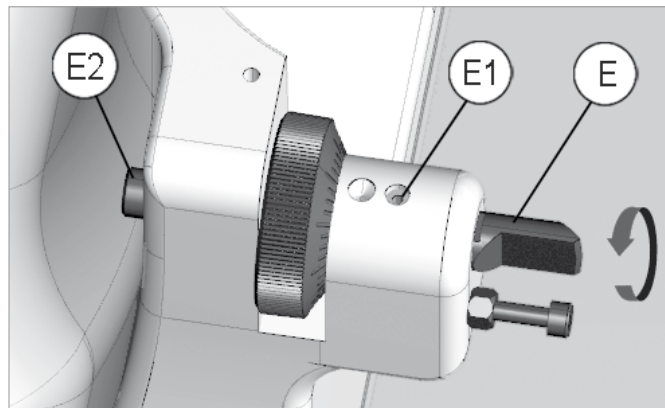

Fig.31
- 1) Loosen the screw (E2) (Fig.31).
- 3) Hold screw (E2) still, unscrew the tracer point (E) anticlockwise and remove.